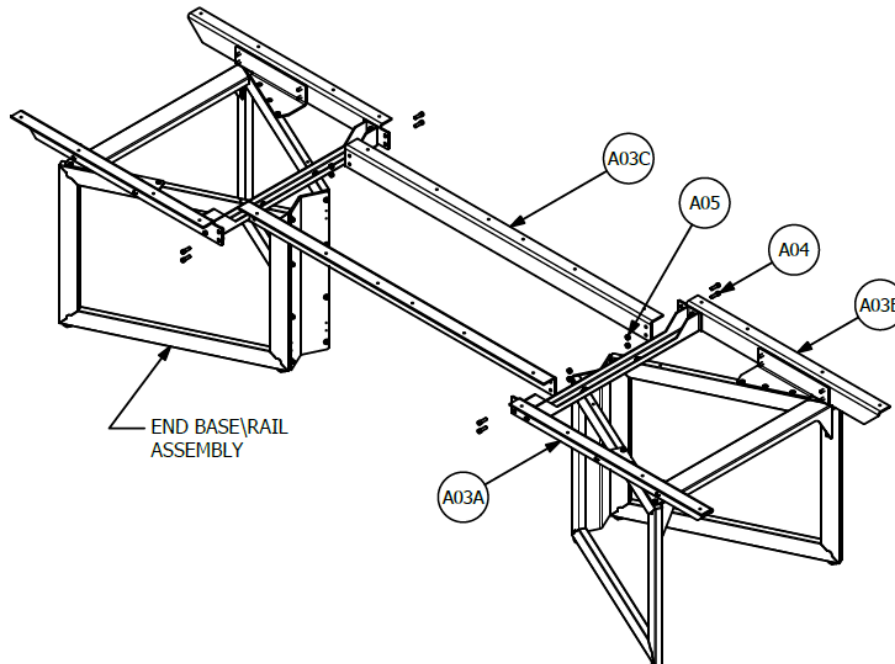

FIG 09: BRIDGE RAILS TO END BASES
3. Layout Bridge Rails (A03C) side-by-side, so that you end up with a pair and position one End Base\Rail Assembly at each end. See Figure 09.
4. Loosely assemble Bridge Rails (A03C) to End Base\Rail Assemblies using Fastener (A04) and Hex Nut (A05), 4 places each end. See Figure 09.